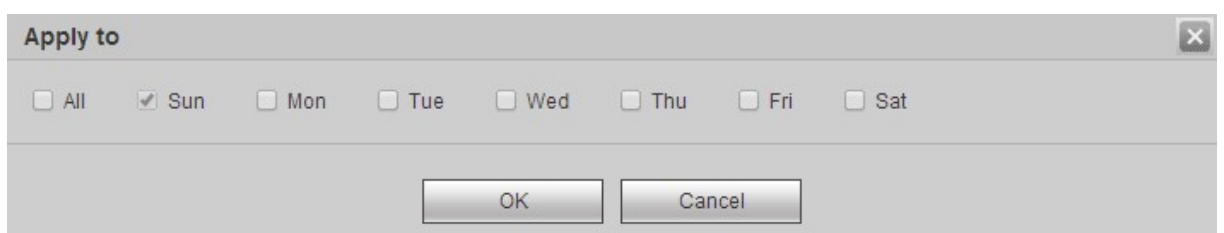

Figure 3-77
Step 4 (Optional) Click “Apply to”, and pop up Figure 3-77.